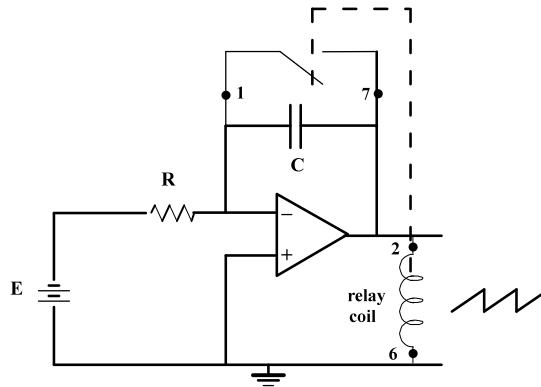

Figure 5.14 Circuit to be constructed for Part 3LE.
- (a) Connect the circuit of Figure 5.14. Use the values mentioned in part 1PE and the value of the resistor that you calculated.